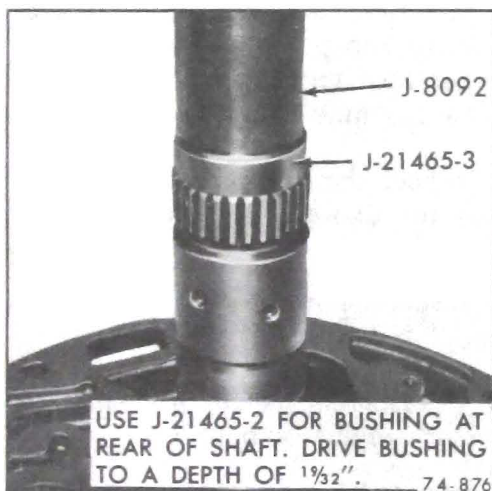

Figure 76-634
b. Using Installer J-21465-3 install bushing in front of shaft. See Figure 76-634.
c. See Figure 76-634 for installation of bushing in rear of shaft.